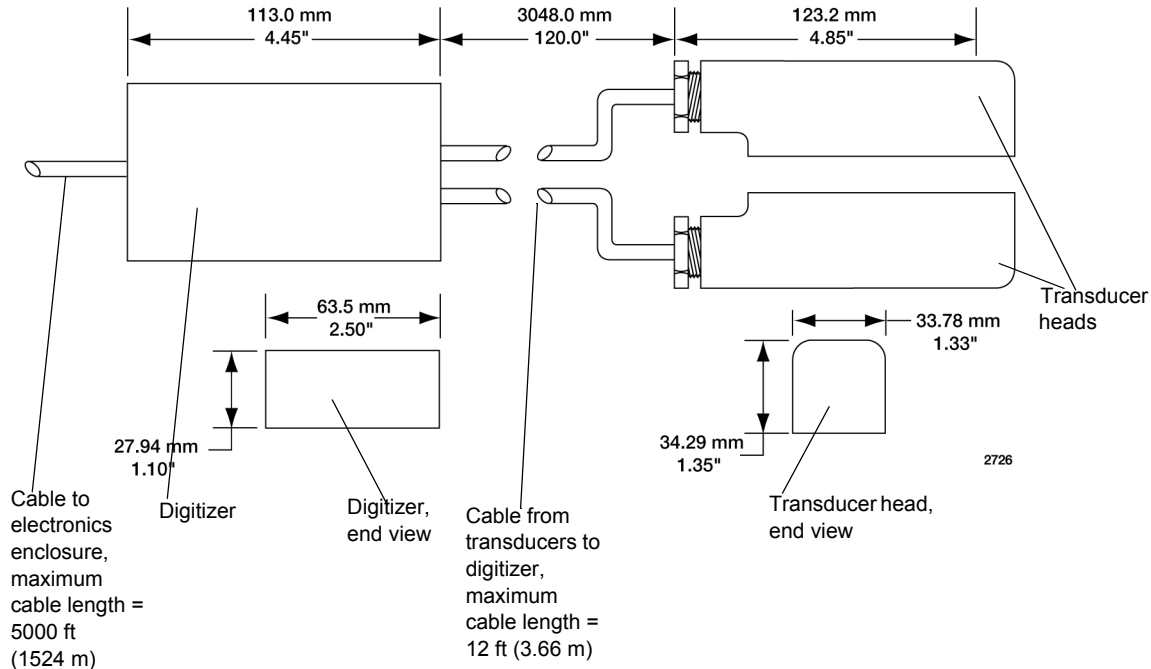

Figure 4-3. Dimensions of clamp-on transducer
Dimensions	<ul style="list-style-type: none"> • Transducer heads: 4.85"(L) x 1.33"(W) x 1.35"(D) (123 mm x 33.8 mm x 34.3 mm) • Digitizer: 4.45"(L) x 2.50" (W) x 1.10" (D) (113 mm x 63.5 mm x 28 mm) Note: See Figure 4-3 on page 4-8 for the dimensional illustration